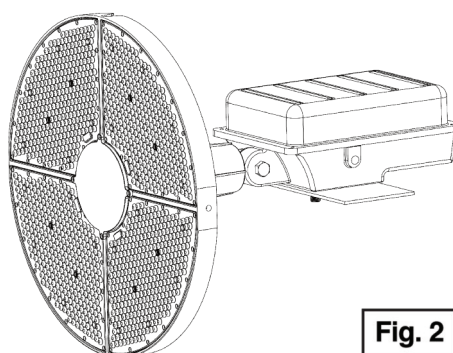

Fig. 2
- 2.) Place the junction box onto the mounting surface. Ensure that the threaded bolt is placed into the appropriate sized hole on the surface. Secure the junction box with the flat washer and nut removed in step 1 (See Fig. 2)